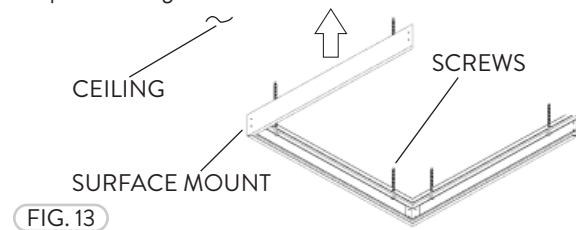

FIG. 13
- 2 Fasten the three Channels to the Ceiling surface. Bolts/Screws not provided (Fig. 13).